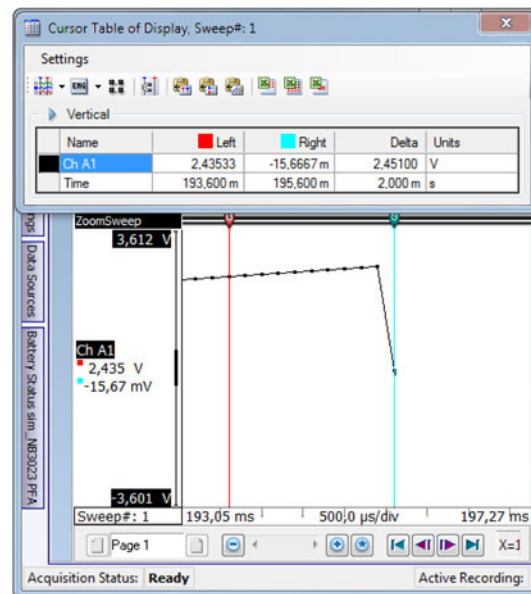

Figure J.9: Sample recording 1
- Next sample recorded (sample of blue cursors, see Figure J.9)